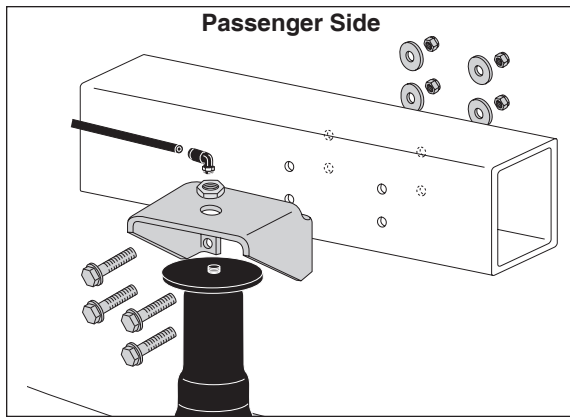

Figure 7
**IMPORTANT:** This kits mounts behind the axle. Figure 1 shows the installation for the driver side only. Refer to Figure 7 for the passenger side installation.
- g. Drill the remaining hole out to a  $\frac{3}{8}$ " diameter and install a  $\frac{3}{8}$ " washer head bolt (N), a large flat washer (M), and a nyloc nut (K).
3. PASSENGER SIDE INSTALLATION: Install the passenger side assembly in the same manner, with the exception to the forward upper hole location. Drill this hole to a  $\frac{3}{8}$ " diameter and install a  $\frac{3}{8}$ " washer head bolt (N), a large flat washer (M), and a nyloc nut (K). No self tapper is used on the passenger side. Refer to Figure 7.